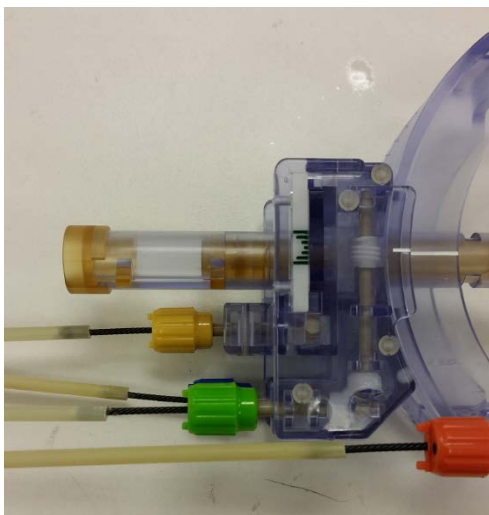

Figure 11: Attachment to Thumb Wheels
2. Attach the distal ends (wings) of the Thumb Wheel Extension Set to the matching-colored thumb wheels on the SMARTFrame XG. See **Figure 11**. You may need to rotate the Thumb Wheel Extension Set thumb wheels to properly orient the wings into the SMARTFrame thumb wheels. The wings should slide to the bottom of the thumb wheels and seat into place.